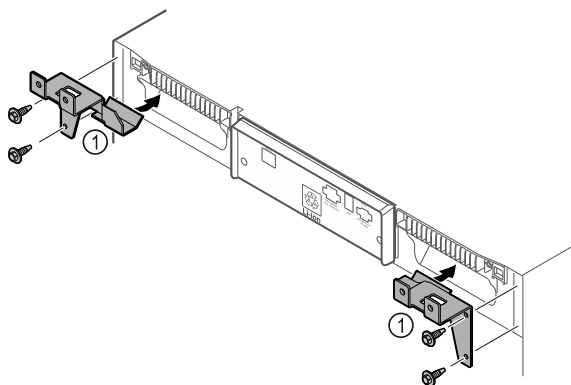

Fig. 11
- Fit the retaining parts Fig. 11 (1) to the device with self-tapping screws.